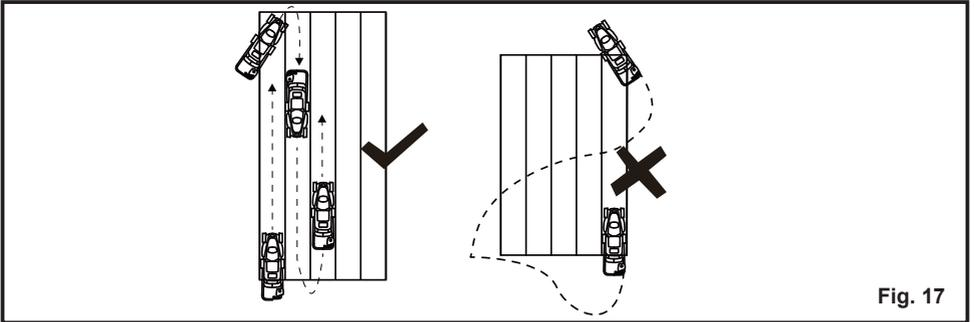

Fig. 17
7. Mow in slight overlapping rows. The most effective pattern for mowing lawns is in straight lines along one of the sides. This will keep the rows even and ensure that the lawn is cut without missing any spots (Fig. 17).